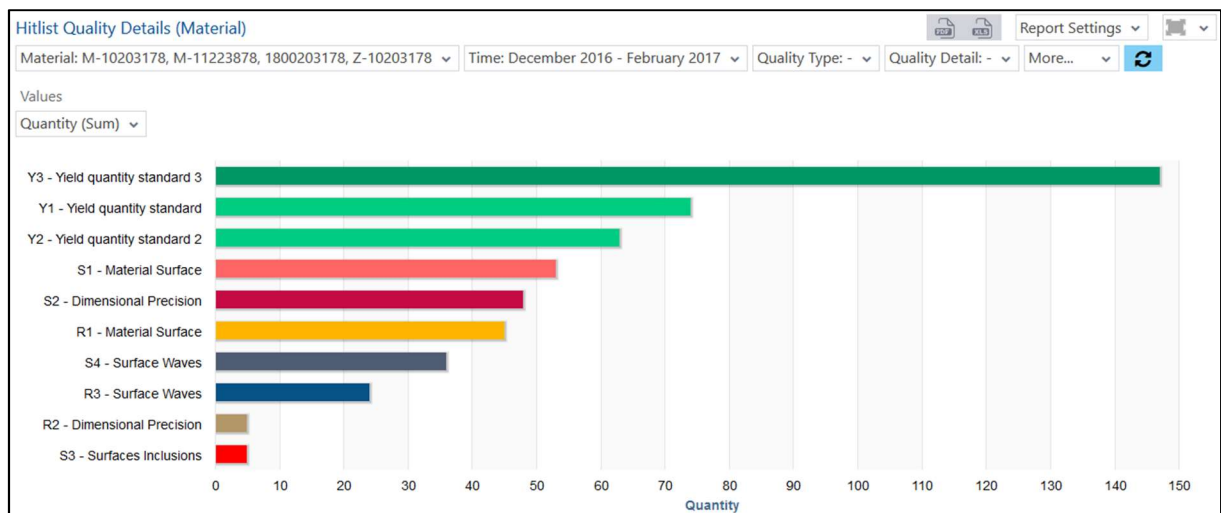

Fig. 115: Hitlist Quality Details (Material) as a bar chart
- Hitlist Quality Details (Material) as a bar chart (Fig. 115):